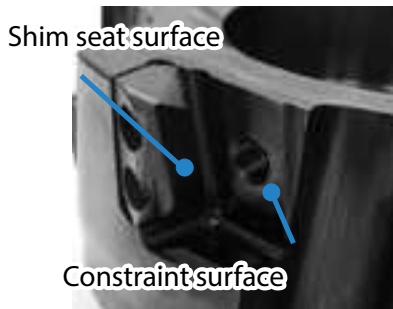

Fig.1
2. After mounting a clamp screw on the top edge of wrench, tighten the screw while keeping the insert pushed against the shim seat surface and holder surface (Fig.1,2)